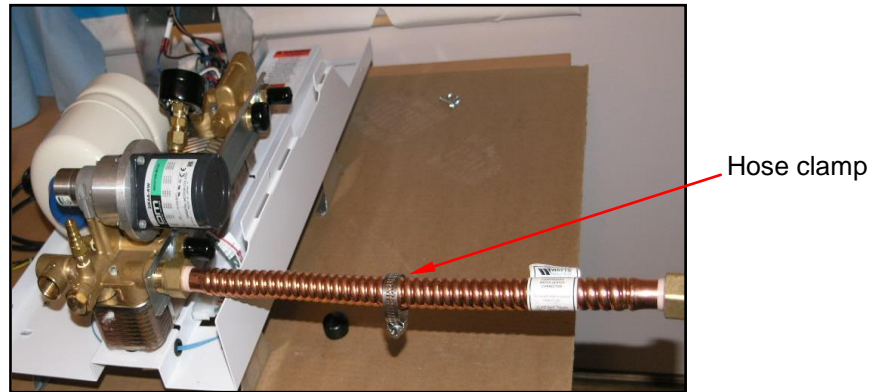

Fig.4.2.2 – Flexible pipe connected to Energy Station. Hose clamp ready to attach thermistor.
7. Connect and tighten flexible corrugated copper pipe to water port at right of lower manifold. Thread sealant or Teflon tape is not required as gasket ensures water-tight seal. Do not over-tighten or gasket may be damaged (Fig.4.2.2).